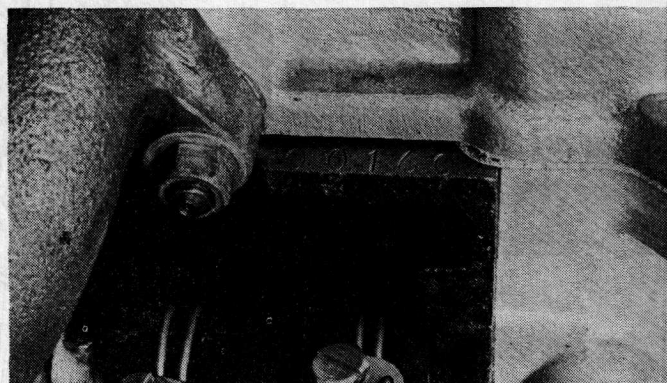

Fig. 3 Engine Serial Number
(2) The engine serial number is stamped at the front, right on the top of the cylinder block. (Fig. 3)